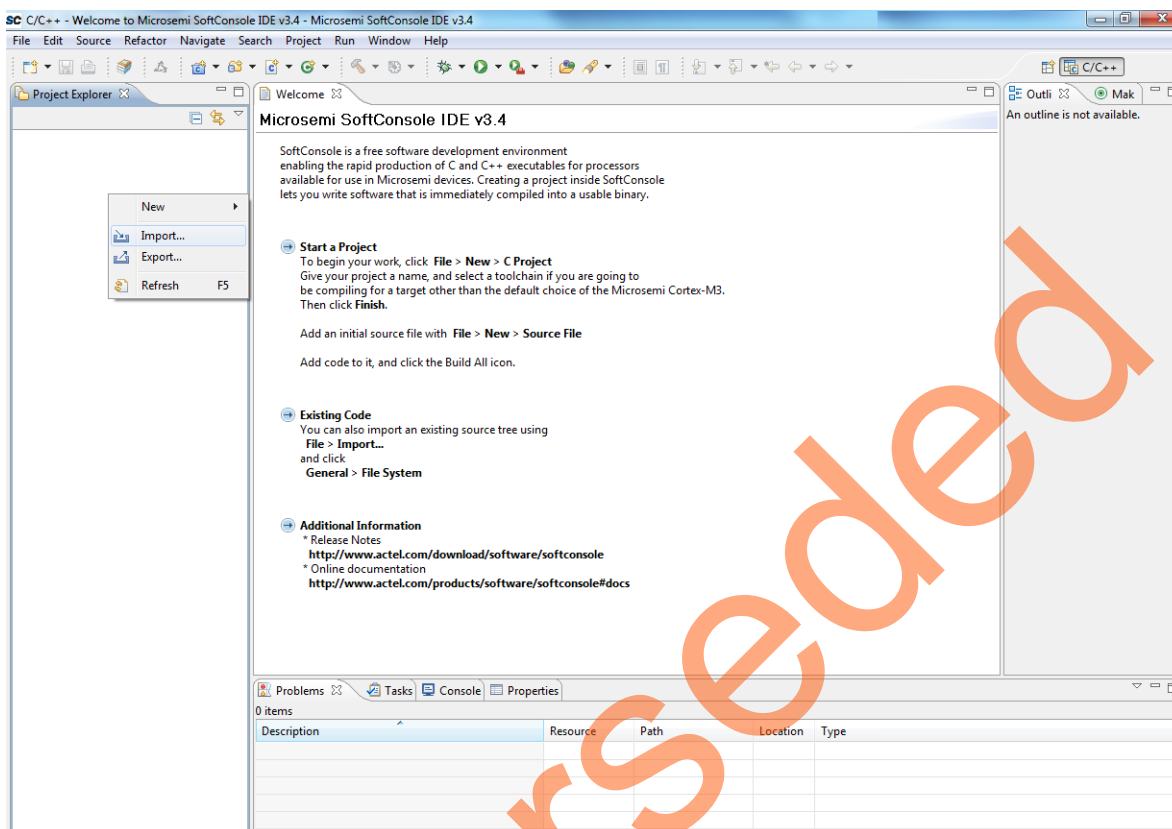

Figure 21 • SoftConsole IDE - Import Projects
2. Right-click **Project Explorer** on the left pane and select **Import** as shown in Figure 21.